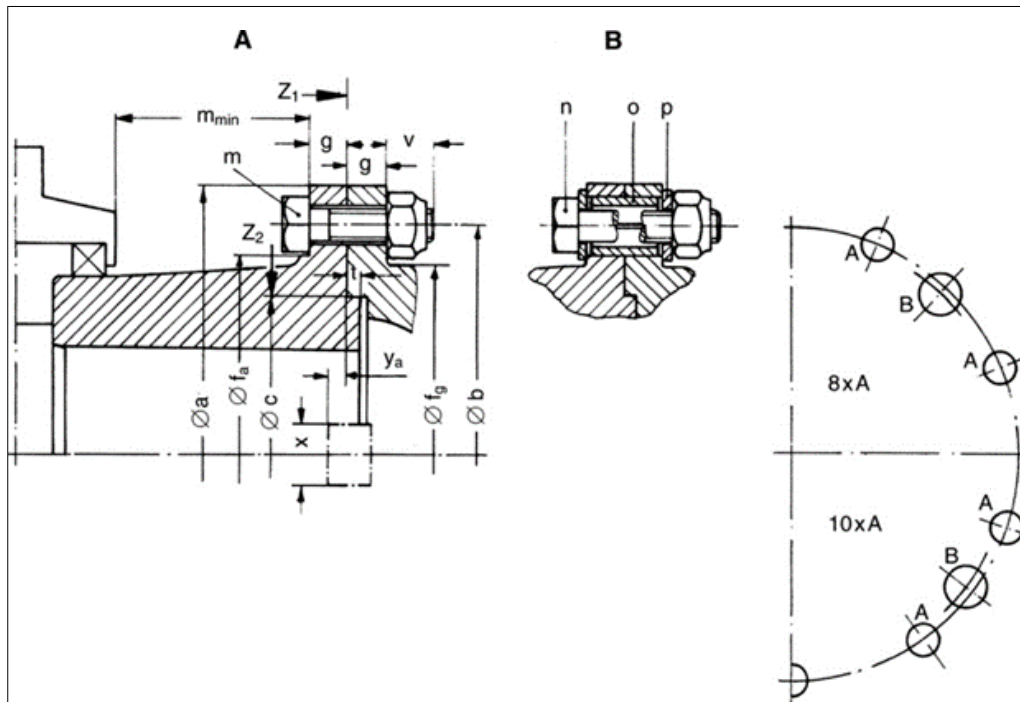

Fig. 6.1: Dimensions of the connecting flange and bolted connections
- ⇒ Select material that permits the use of bolts of the property class 10.9 (→ Fig. 6.1).